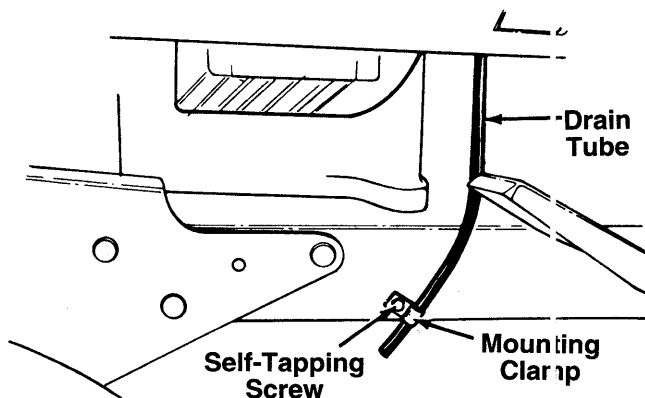

FIGURE 8.
6. Route the battery drain tube over to the **left** side of the tractor. Loosen the self-tapping screw which secures the mounting clamp. See figure 8. Slip the end of the drain tube into the mounting clamp. Tighten the self-tapping screw to secure the clamp. Do not overtighten which could collapse the drain tube.